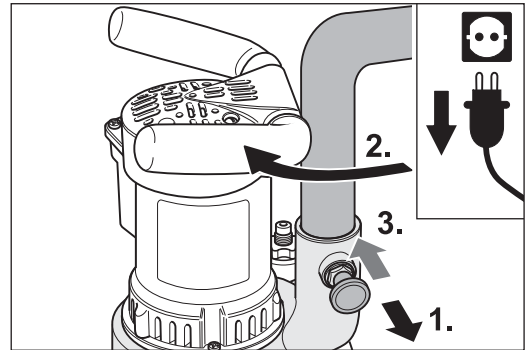

Fig. 28 Pull out the stop bolt (1.) and simultaneously turn the pipe socket (2.). Then release the stop bolt (3.). It must snap into place in the pipe socket!
- 1 Pull out the stop bolt in the fan house (Fig. 28, 1.).
- 2 At the same time, turn the pipe socket until the dust bag is positioned over the attachment (Fig. 28, 2.) and the stop bolt noticeably snaps into place in the pipe socket when released (Fig. 28, 3.).